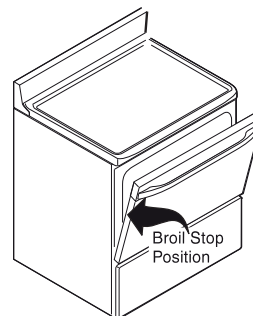

Figure 13: Open door to stop position when broiling
3. Place the broiler pan on the oven rack. Leave the oven door open at the broil stop position when broiling (Figure 13).